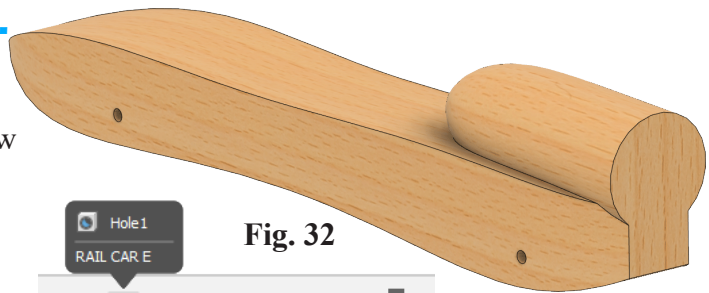

Fig. 32
Step 1. Rotate view to view Cartridge Hole, **Fig. 32**. Hold down middle mouse button (wheel) and drag to rotate view